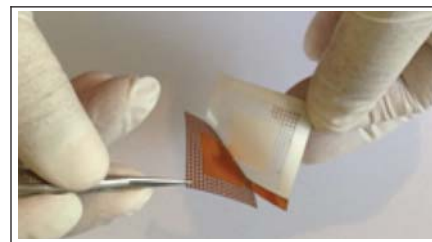

Figure 2 Remove the Liner
3. Remove the release liner from bottom of stencil (see Figure 2).